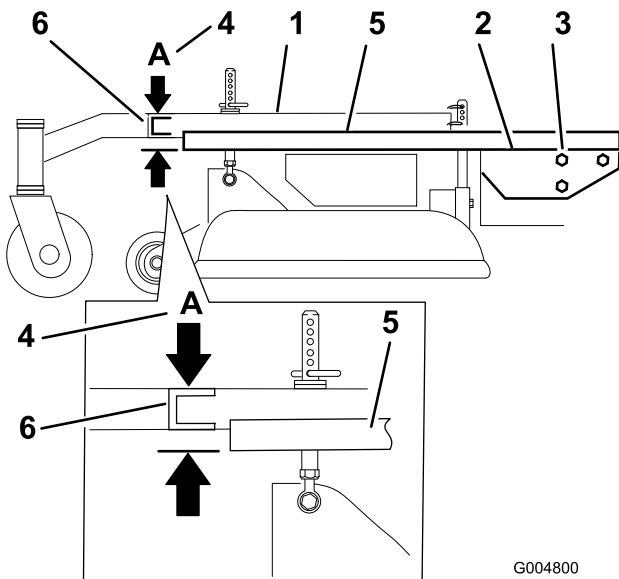

Figure 60
3. Place a long straight edge on top of the engine deck as shown in Figure 60.
4. At the carrier frame cross channel, measure the height at location **A** (Figure 60). This measurement must be 1-5/16 inch (33 mm), plus or minus a 1/4 inch (6 mm).
6. Loosen the carrier frame mounting bolts on both sides of the machine (Figure 60).
7. Align the carrier frame and engine deck to match 1-5/16 inch (33 mm), plus or minus a 1/4 inch (6 mm) at location **A** (Figure 60).